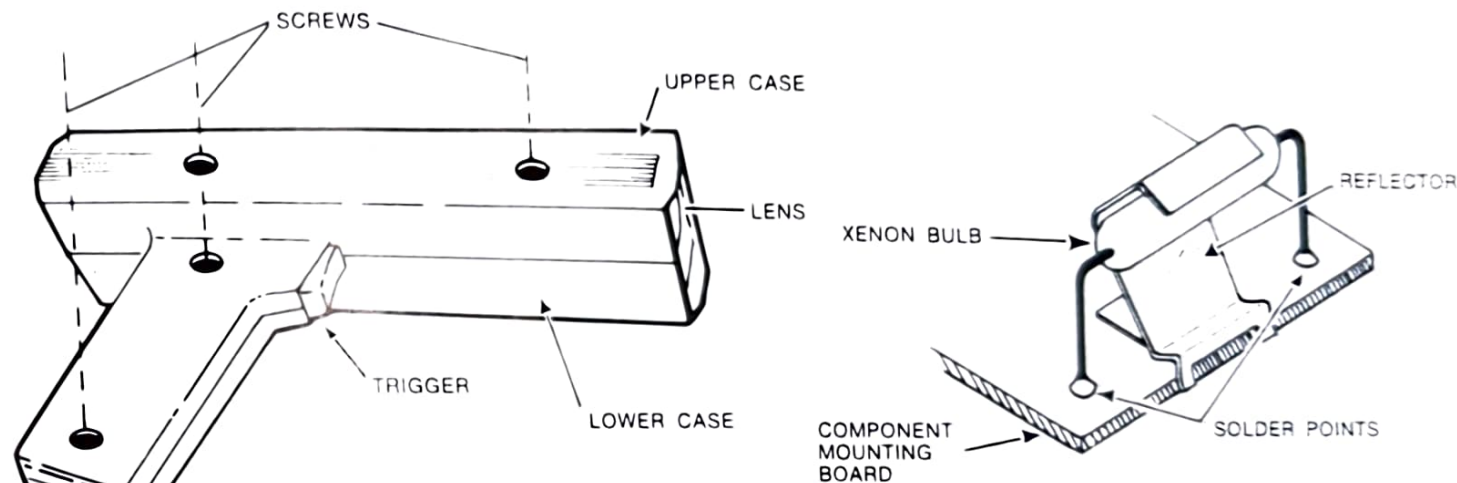

Figure 9
There are several different bulbs used in these Timing Lights and each is removed and installed differently. To replace a bulb in those timing lights which have the bulb inserted into the side of the housing proceed as outlined under Figure 8. For timing lights without the removable bulb holder proceed as outlined under Figure 9.
2. Lay the timing light on its left side and remove the four (4) screws holding the case halves together, see Figure 9. (NOTE: After carefully removing top case half, note the internal arrangement of wires and components so you can properly reassemble the timing light after replacing the Xenon Bulb.)
3. Remove component mounting board from the lower case half and locate the Xenon Bulb, see Figure 9.
9. Reinstall the four (4) screws to complete the timing light reassembly.